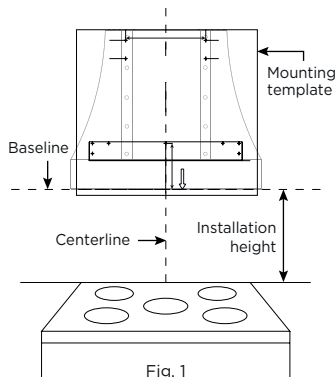

Fig. 1
1. Determine installation height (consult hood installation manual) and draw a horizontal line (baseline) on the wall at the required height (Fig. 1). -30" for gas ranges. -24" for electric ranges.